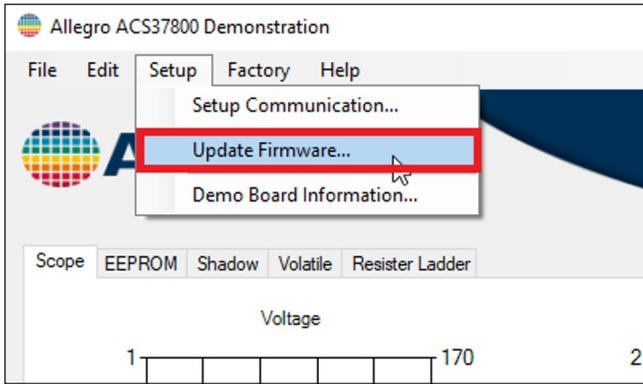

Figure 10: “Update Firmware” Option in the “Setup” Menu
3. The “Download Firmware” dialogue window will open (refer to Figure 10).